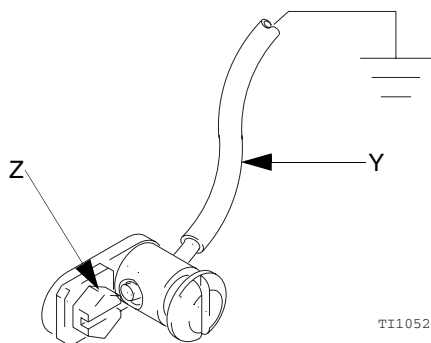

FIG. 1
- *Pump:* Use a ground wire and clamp as shown in FIG. 1.
To ground the pump, remove the ground screw (Z) and insert through the eye of the ring terminal at end of the ground wire (Y). Fasten the ground screw back onto the pump and tighten securely. Connect the other end of the ground wire to a true earth ground. See FIG. 1. *To order a ground wire and clamp, order Part No. 222011.*